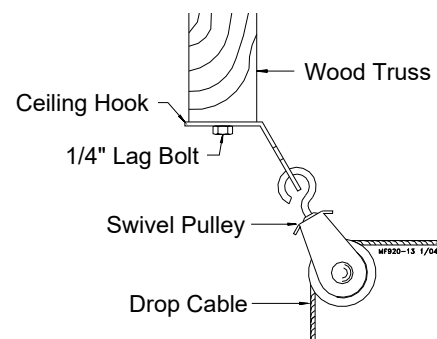

Figure 16. Pulley Installation
6. After securing the Ceiling Hook to the truss, slide the hook of a Swivel Pulley into the slot, as shown in **Figure 16.**